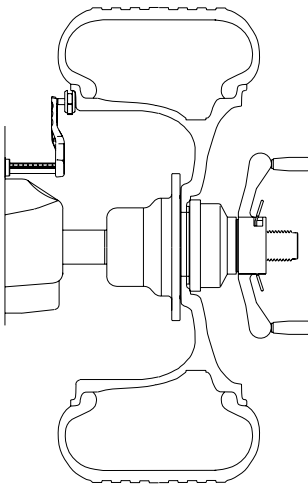

Figure 19
**4.5.1 Rim Distance (offset)** - Move the rim offset arm to the edge of the rim, touch the pointer to the rim edge as illustrated in Figure 19 and hold steady for about a second. The beeper will sound when the distance and diameter values are calculated and entered. Return the arm to its fully in and down position on the balancer. Do not allow the measurement arm to "dangle" down in front of the balancer.